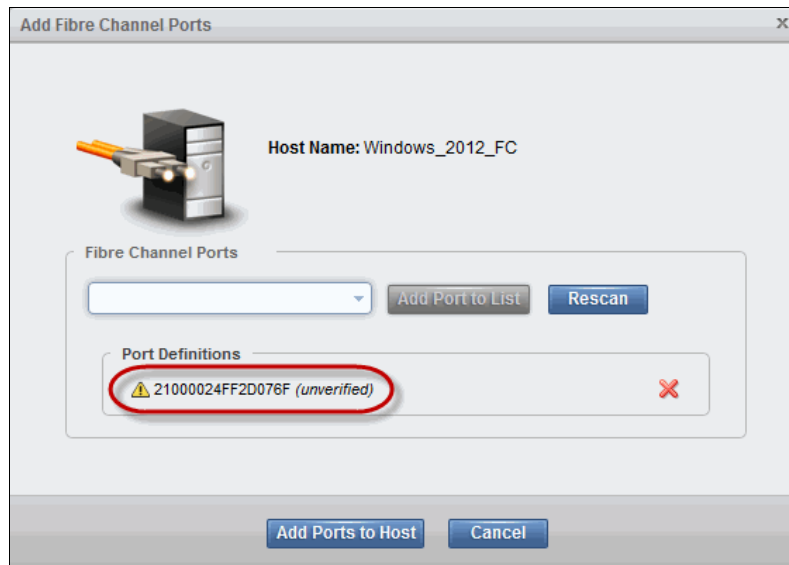

Figure 8-31 Adding offline port
4. To add an offline port, manually enter the WWPN of the port into the Fibre Channel Ports field and click **Add Port to List**, as shown in Figure 8-31.
5. To remove one of the ports from the list, click the red X next to it. In Figure 8-31, we manually added an FC port.